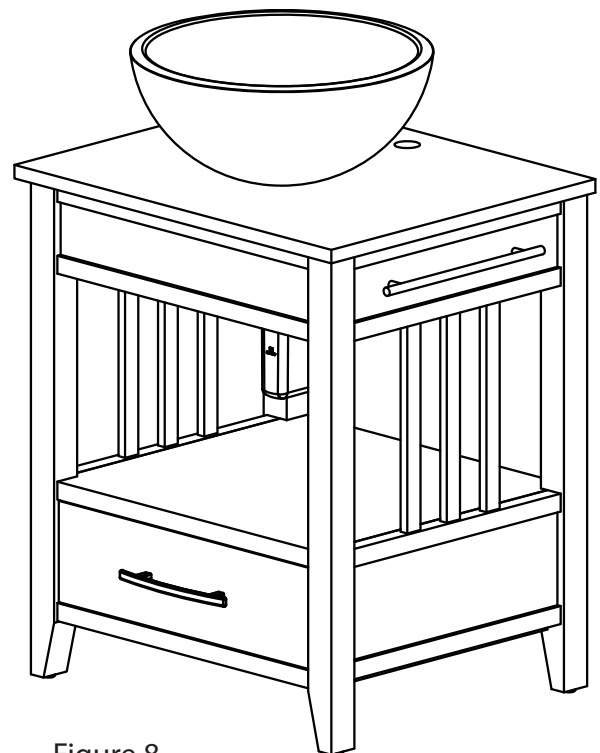

Figure 8
- o Refer to Figure 8 for finished Vanity.